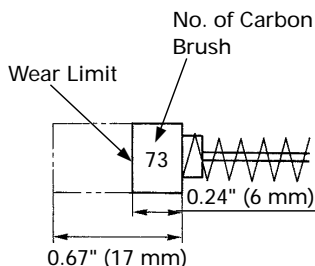

Fig. 5
3. Inspecting the carbon brushes (Fig. 5)
NOTE: Use HITACHI carbon brush No. 73 indicated in Fig. 5.